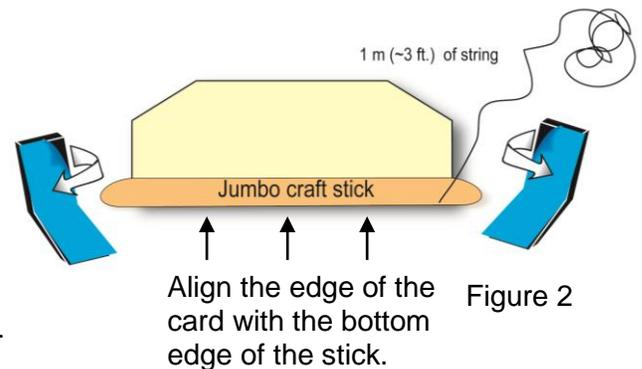

Figure 2
- 2** Place the jumbo craft stick on top of the index card. Align the stick with the long edge of the card as shown in figure 2.
- 3** Peel the backing from one piece of adhesive foam. Fold the foam over the end of the craft stick so that the craft stick and the index card are joined together (see figures 2 and 3).
- 4** Peel the backing off the other piece of adhesive foam. Place the string across the adhesive side of the second foam piece, leaving a loose end of several inches. Place this second piece of foam over the other end of the craft stick in the same way as step 3. Tie a loop around the foam, making a secure attachment. See figures 2 and 3.